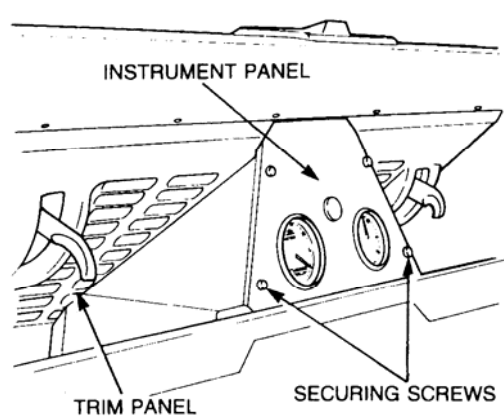

Figure 8 Instrument Panel Removal
- b. Remove the four screws securing the instrument panel to the trim panel (refer Figure 8).